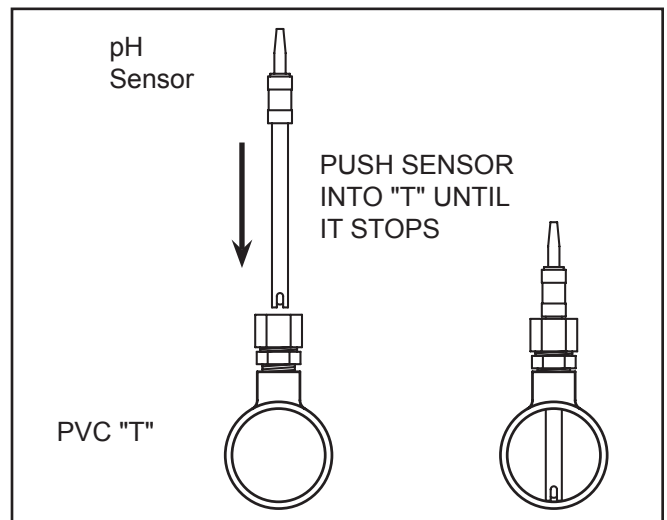

Figure 5. pH Sensor Installation
3. Remove the protective cap from the pH sensor. Using the "T" with the sensor adapter, install the sensor into the adapter. Push the sensor into the adapter until it hits the bottom of the "T" (see Fig 5). Tighten the sensor adapter (hand tighten only).
Route the sensor wires through the small strain relief into the Smart pH and to the appropriate connectors (green terminal bar) in the Smart pH (see Fig. 5).